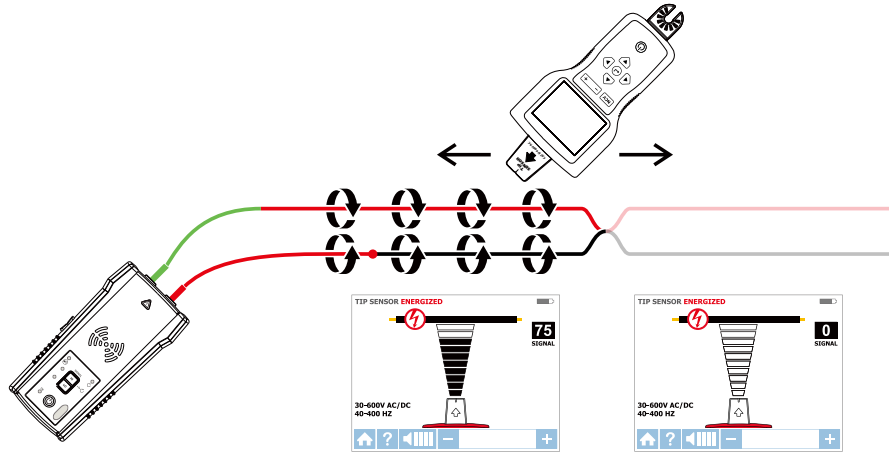

Figure 4.3: Finding a short
1. Connect the Transmitter with the test leads to the circuit as shown in Figure 4.3.